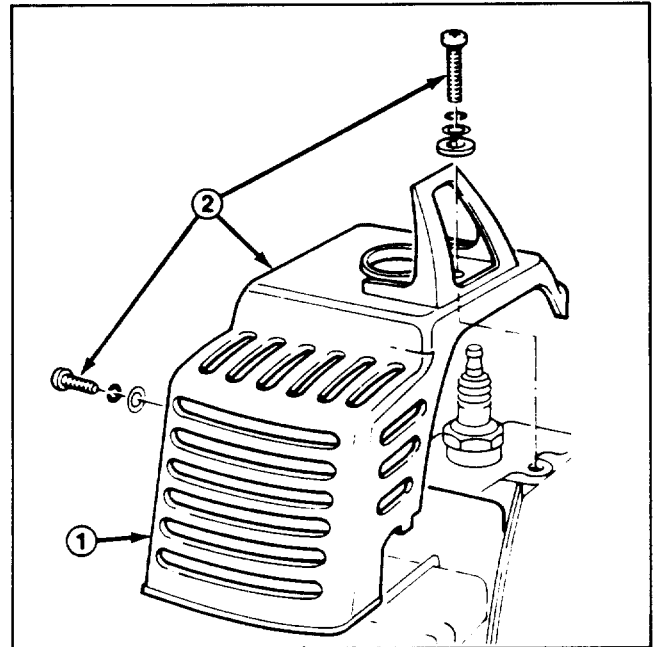

Figure 15
## SERVICING MUFFLER (Figs. 15 & 16)
1. Remove three (3) screws securing muffler cover to trimmer (Fig. 15).